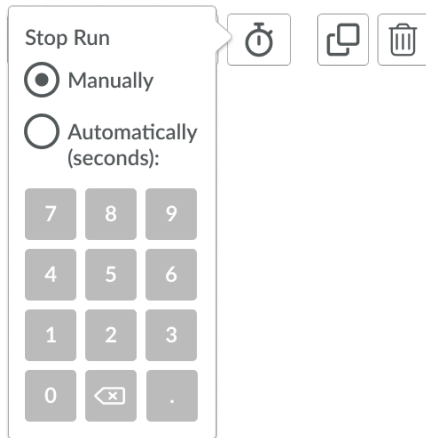

Figure 33. Manual Sample Run Mode
2. Tap on “Manually” to manually input the sample run time. The text field will change to a  [Stopwatch] icon to indicate a Manual sample run (Figure 33).